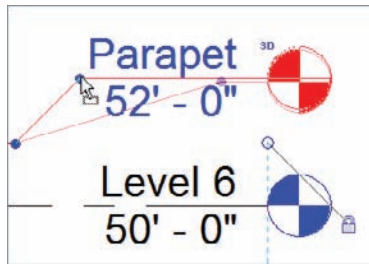

FIGURE 3.15 Making the final adjustments to the level
4. The line of the level will still be in the way. Notice that the two blue grips are still available. Pick and drag the horizontal line out of the way of the Parapet text, as shown in Figure 3.15.